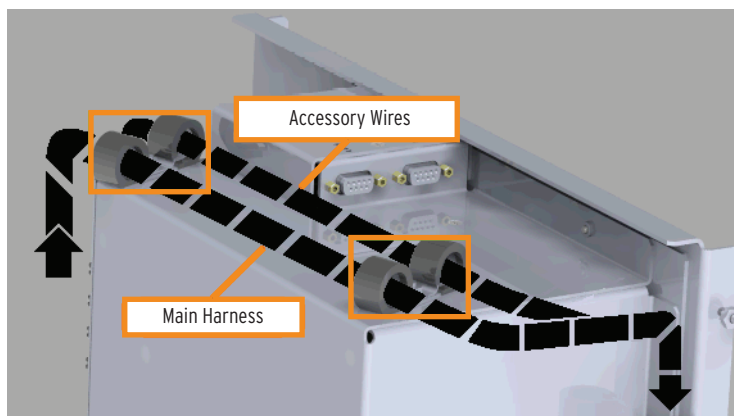

Figure 5 Secure Wires on Top of Control Module
- Step 10. Use the existing nuts to secure the wires to the top of the control module with the two accessory wire clamps (if they are not already installed). See *Figure 5*.